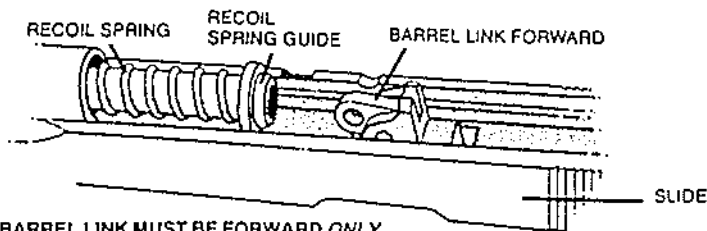

FIGURE 8 - BARREL LINK MUST BE FORWARD *ONLY* FOR BARREL TO BE REMOVED AND ASSEMBLED THROUGH THE SLIDE.
8. Lift recoil springs and guide and pull them rearward out of slide. (See Figure 8).
1. With slide upside down and barrel link forward, assemble barrel into the slide, as in Figure 8.